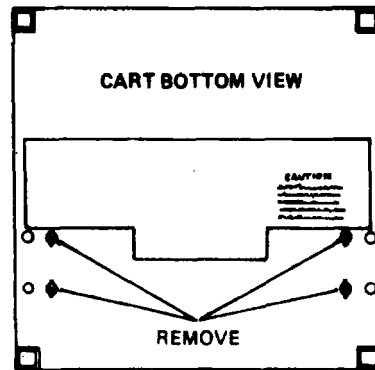

FIGURE 2
- d. Remove the four (4) screws from the bottom of the recorder which secure the recorder to the bottom of the cart. See Figure 2.